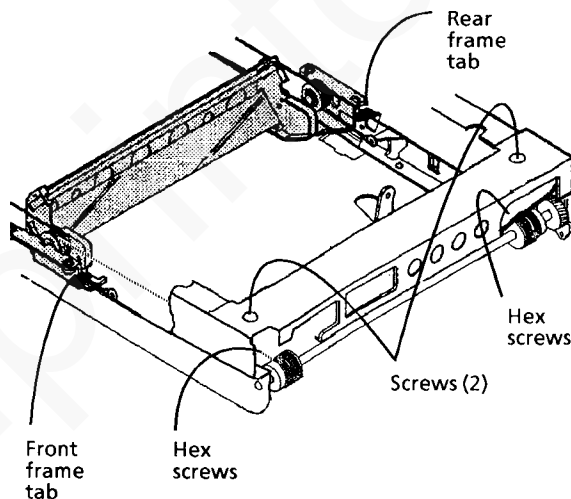

Figure 2. Adjusting the Half Rate Carriage
3. Adjust the Half Rate Carriage (Figure 2).
- a. Loosen the screws (2) that secure the Optics Cables to the bottom of the Full Rate Carriage.